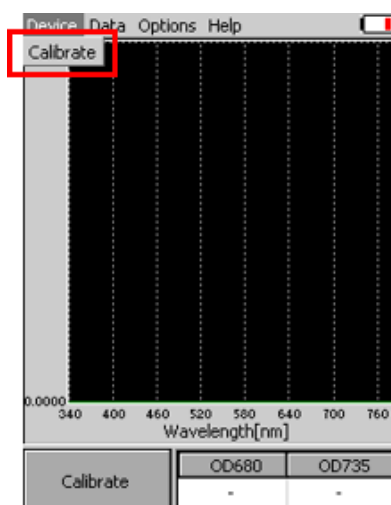

Fig. 5 Calibration of the device.
- **Calibrate** – calibration can be run any time by pressing Device > Calibrate after inserting cuvette with clear media. (Fig. 5).